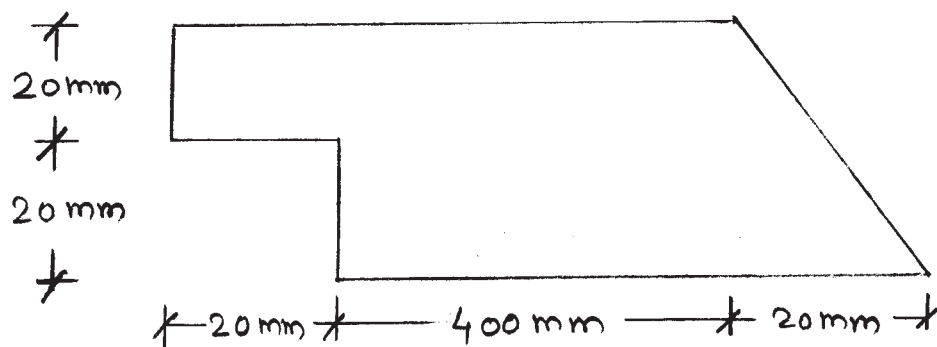

Fig. No. 9
b) Locate the centroid of the lamina shown in Fig. No. 9.